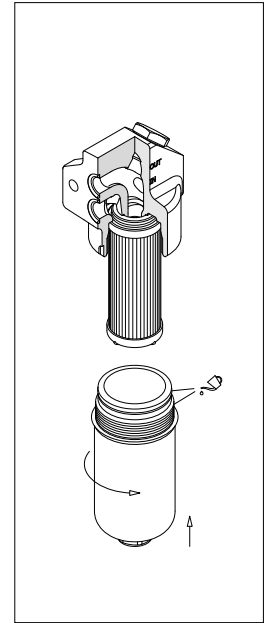

fig. 21
- (Fig.21) Lubricate the thread and the O-ring of the bowl, then screw the bowl in referring to the tightening torque table in paragraph 3